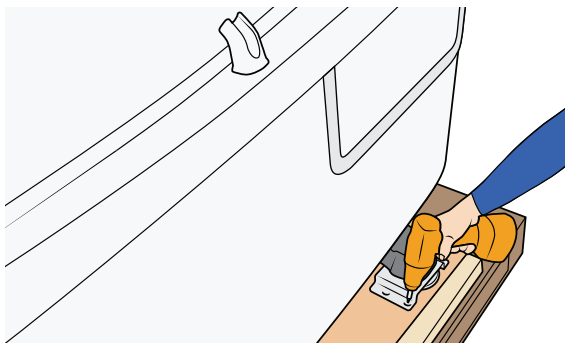

Figure 4
3. Remove all the screws on the four feet fixtures. See Figure 4.